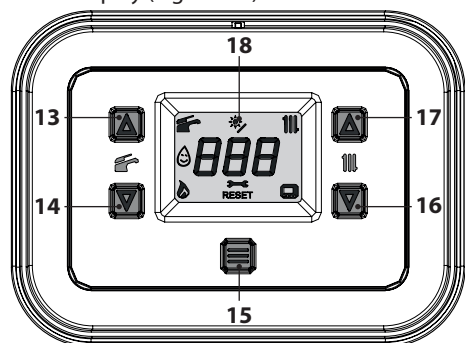
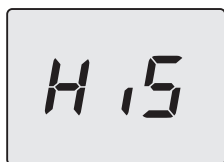

Figure 8.1
Figure 8.2
- Enter "programming mode" by pressing the 14 and 16 buttons simultaneously for 5 seconds (Figure 8.1) until **HiS** (in reference to the "Boiler History" menu) appears on the LCD display (Figure 8.2).
- Press the 15 button for 1 second (Figure 8.1) to open the selected parameter. The display will show the following (Figure 8.5).
- Press button 15 (Figure 8.1) to confirm the value entered. The display will show the following (Figure 8.7) for 5 seconds, then move up to the next level.
- By pressing the keys 14 and 16 simultaneously (Figure 8.1) exits the level without changing the value (return to the previous level Figure 8.4).
- press the 14 and 16 keys simultaneously for 5 seconds (Figure 8.1) (return to previous level).